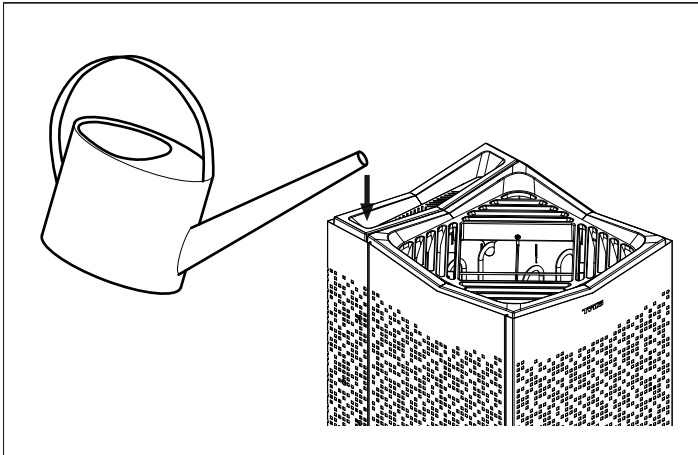

Figure 3: Filling the water reservoir.
Before starting the heater, fill the water reservoir by carefully pouring tap water through the herb grille, see fig. 3.
2. Start the steam function (see The section called Use, Figure 3) and run until the water boils.